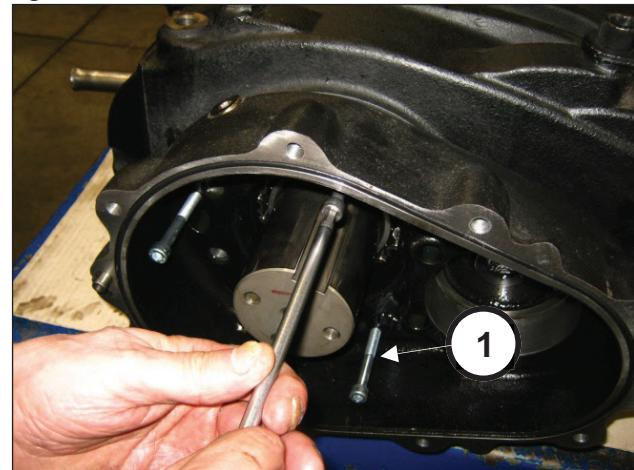

Fig. 23
Position the 3 grub screws or M8 threaded screws (pos. ①, Fig. 23) with the function of extractors in the holes.